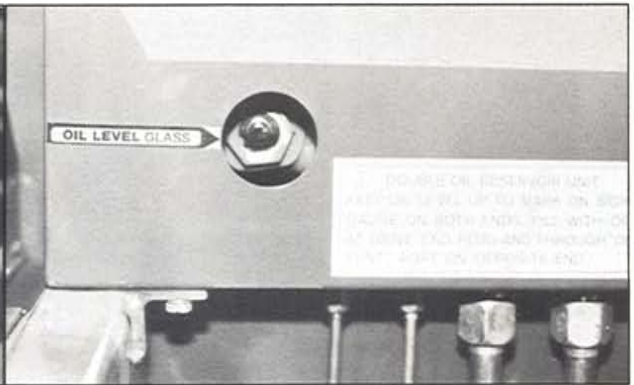

Figure 6 Sight glass blower- deluxe
1. Lubricate the machine on schedule as outlined in the "Maintenance" section. Check the oil level in the reservoir on the air pump. (see figure 5 and figure 6)